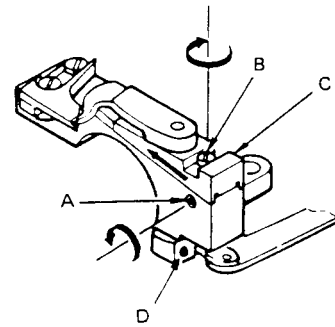

Fig. 11
- a. Loosen screws A and D shown in Fig. 11.
- b. Turn eccentric stud B clockwise to move the wedge shaped slide block C in the direction shown in Fig. 11.